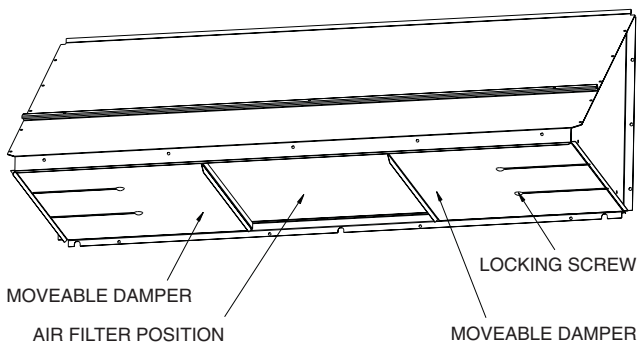

Fig. 2 — Manual Damper Details
9. Affix the two sliders to the block-off panels (2) with the screws supplied. The sliders should be assembled so they do not extend beyond the block-off panels. Install into the hood. See Fig. 2.
12. Move the manual dampers into the appropriate position and lock into place using the screws mounted in the adjustment slots. See Fig. 2.